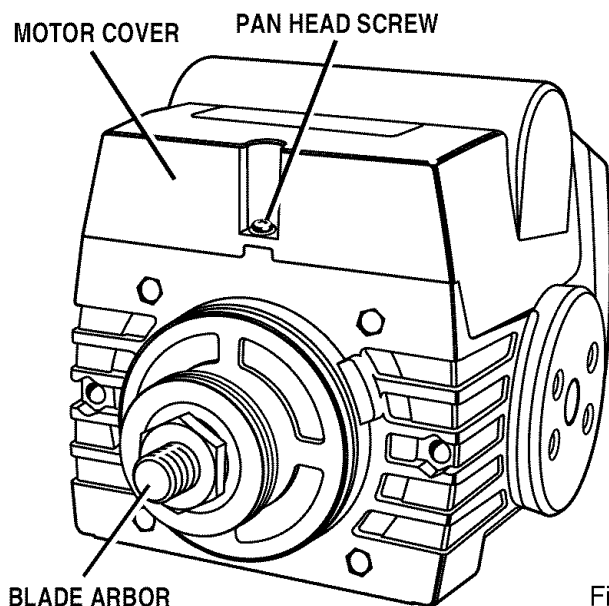

Fig. 2
See Figures 2 - 4.
- Remove the pan head screw above the blade arbor on the motor cover. Lift motor cover to expose switch. See *Figure 2*.